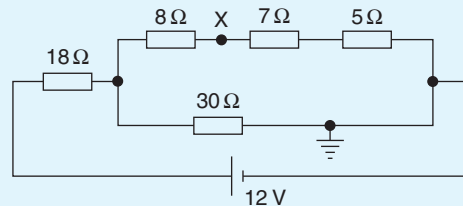

Figure 5.52
2. For the circuit shown in Fig. 5.52, calculate (a) the voltage drop across the 7Ω resistor, (b) the current through the 30Ω resistor, (c) the power developed in the 8Ω resistor, (d) the voltage at point X w.r.t. earth and (e) the absolute voltage at point X.